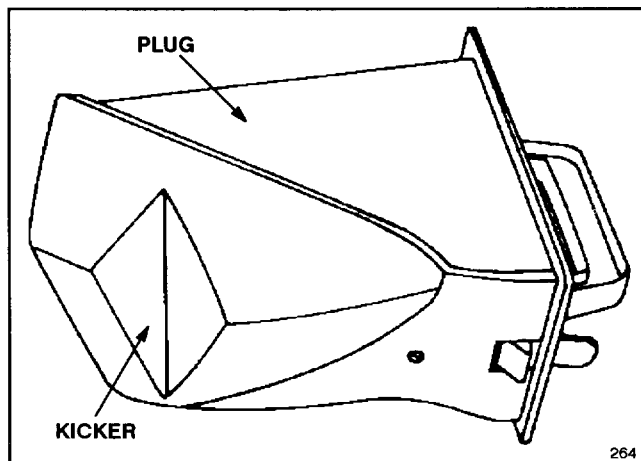

Figure 9
- A plug which locks into the mower's discharge tunnel (a fourth kicker is on the plug) (Fig. 9)
It is possible to mow without using the plug by closing the discharge tunnel door. However, your lawn appearance will be much more satisfactory if you use the plug as it has an additional kicker (Fig. 9) that helps drive the clippings down into the grass.